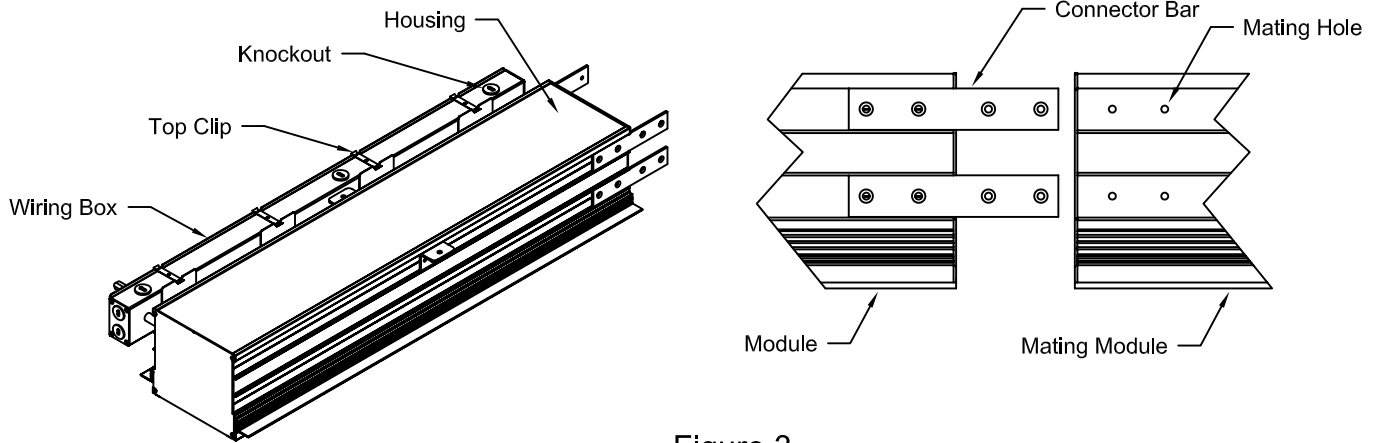
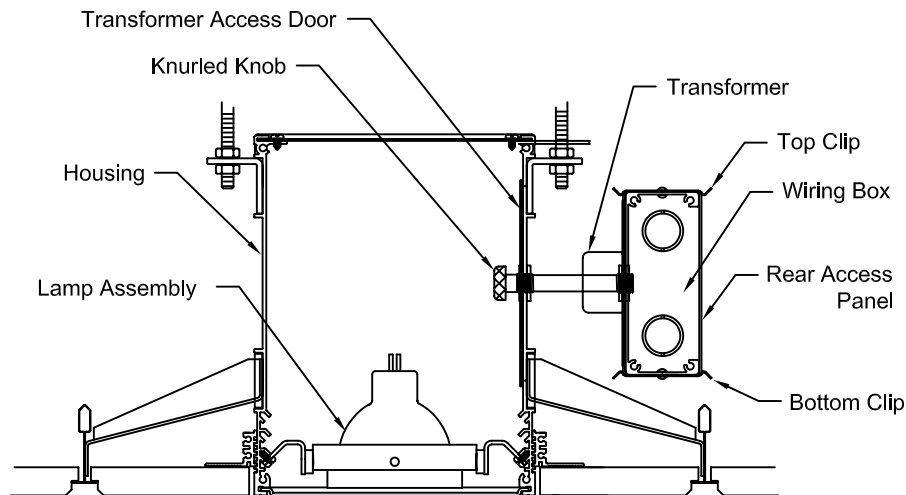

Figure 3
Figure 5
6. Align Connector Bars with Mating Holes in Straight Modules. See Fig. 3.
1. Locate Transformer Access Door behind each Lamp Assembly. See Fig. 5.
3. Remove Two (2) Knurled Knobs at each side of Access Door. See Fig. 5.
2. Connect Wiring Box to Electrical Service using Knockouts located at each end of Wiring Box and Knockout along top of Wiring Box as needed. See Fig. 3.
3. To remove Rear Access Panel(s) for inspection, lift Clips at Top and Bottom of Wiring Box. See Fig. 3 & Fig. 5.